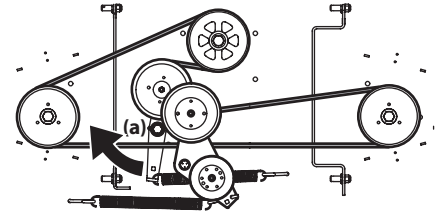

Figure 4-20
- Using a ½" drive insert the end into the ½" square opening in the deck idler assembly (a) and rotate the deck idler assembly (a) clockwise. See Figure 4-20. While holding the deck idler assembly (a), loosen the deck belt from the pulley and slide the belt away from the pulley.
- Route the new belt as shown in Figure 4-20. Then reinstall the deck and PTO belt as instructed on page 25.